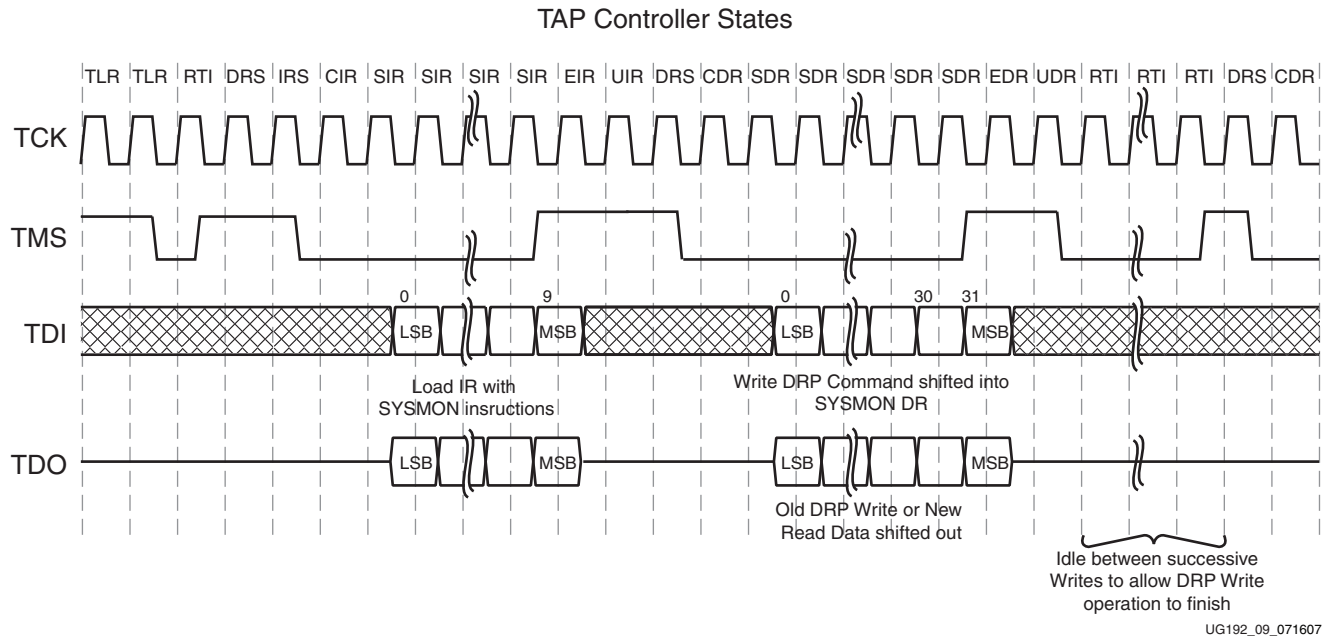

Figure 9: System Monitor JTAG DRP Write Operation
Figure 9 shows a timing diagram for a Write operation to the SYSMON DRP through the JTAG TAP. The DRP is accessed through the System Monitor Data register (SYSMON DR). Before the SYSMON DR is accessed, the instruction register (IR) must first be loaded with the SYSMON instruction. The Controller is first placed in the IR-scan mode, and the SYSMON instruction is shifted to the IR.
If multiple writes to the SYSMON DR are taking place, it might be necessary to idle the TAP Controller for several TCK cycles before advancing to the next write operation. This is illustrated in Figure 9. The idle cycles allow the arbitrator to complete the Write operation to the System Monitor DRP register. If DCLK is running approximately  $6 \times TCK$ , these idle states are not necessary. However, inserting ten or so idle states ensures all transfers are inherently safe.